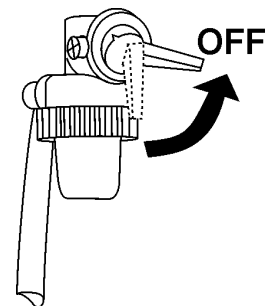

Figure 25. Engine Fuel Valve Lever (OFF)
6. Place engine fuel valve lever (Figure 25) in the **OFF** position.